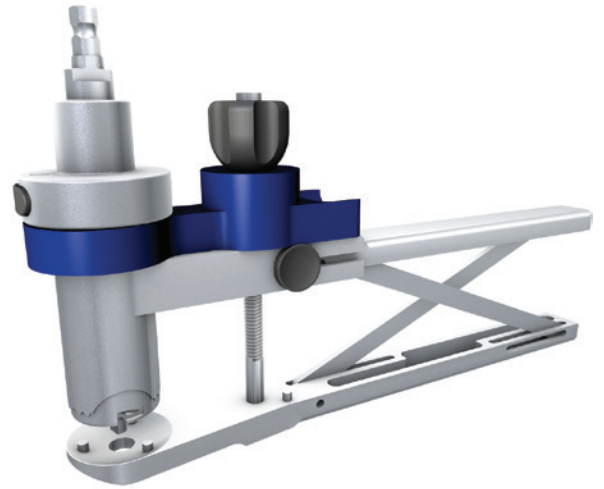

Figure 48
- 5 Lower the Patellar Depth Stop until it contacts the Patellar Depth Gauge (Figure 48).